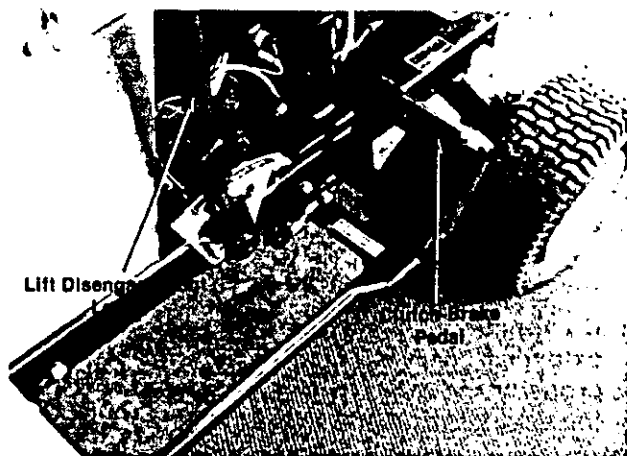

FIGURE 12.
e. **Clutch-Brake Pedal.** The clutch-brake pedal is located on the right hand side of the rider and is operated by depressing it with your right foot. See figure 12.
f. **Lift and Disengagement Lever.** It is used to raise the cutting deck. Pulling it all the way back and locking it disengages the blades. The engine will not start unless the lift and disengagement lever is in the disengaged position. See figure 12.